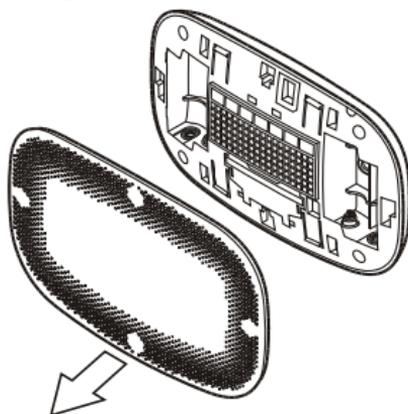

Figure 3. Open ZTS-500 front housing
1. Open the ZTS-500 by pulling the two sections apart (Figure 3). Use the fingertips of one hand to grip the tab on the bottom of the front housing.